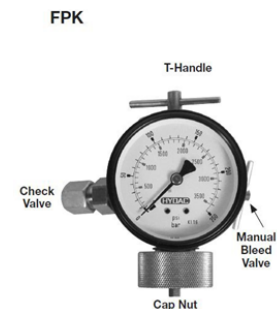

Fig.3 The profile of FPK
5. If gas precharge is too high, it can be reduced by carefully opening the manual bleed valve and relieving some pressure (see fig.3). Release the gas precharge pressure very slowly until the desired gas precharge pressure is reached 2160 psi, disconnect the charging and gauging unit from the accumulator. Check for leaks; NONE are permissible. Torque valve seal cap (see torque requirements below) and hand tighten valve protection cap (where applicable).